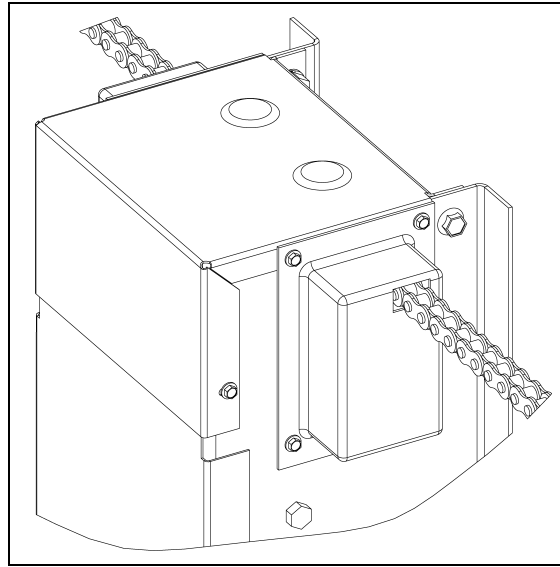

Figure 3E
10. Insert the chain through the pulley/sprocket cover. (See Figure 3E.)